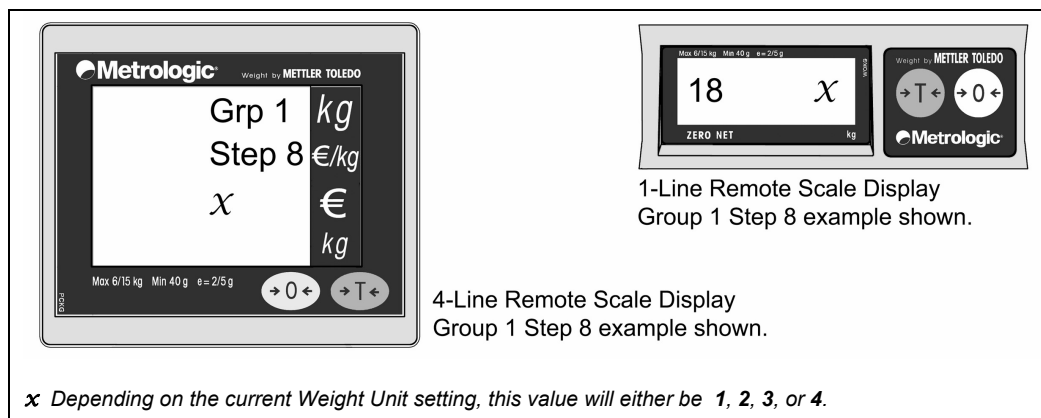

Figure 44. Remote Scale Display Group 1 Step 8 example shown
- Go to **Group 1 Step 8** (Weight Unit) of the Service Mode by pressing the Zero ( $\rightarrow 0 \leftarrow$ ) key several times until 'Group 1 Step 8' is displayed on the Remote Scale Display screen (see Figure 44 below).